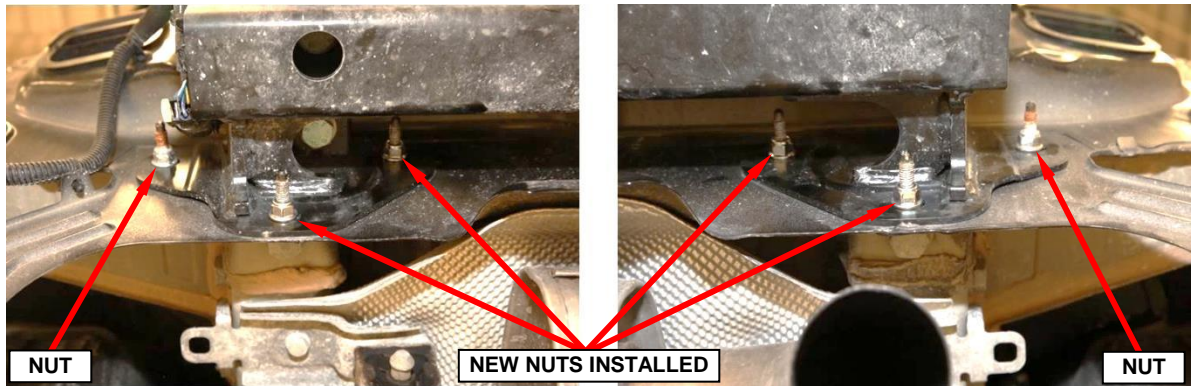

Figure 13 – Trailer Hitch-to-Body Attachment Nuts Installed
16. Install any trailer hitch-to-body attachment nuts that may be missing (Figure 13).